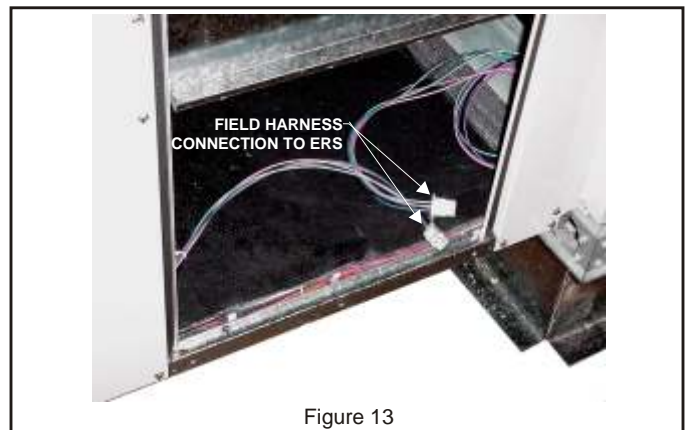

Figure 13
- Remove the right front (rooftop unit side) access panel and locate the field wiring harness that was previously routed into the return air of the rooftop unit. Plug the field wiring harness into the connector located at the bottom of the access door inside the ERS. **See Figure 13.**